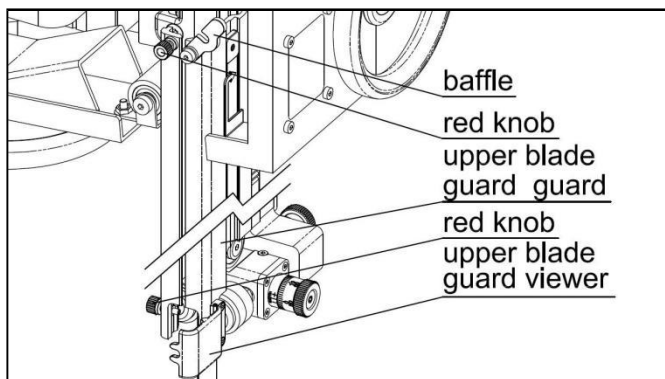

Fig. 8-2
2. Open the upper and lower cabinet doors and the lower blade guard. Loosen the two red knobs on the upper blade guard, and open the top baffle and the upper blade guard viewer (see Fig. 8-2).